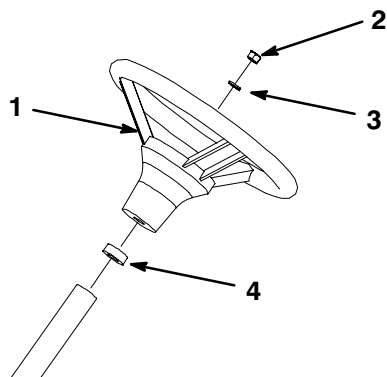

Figure 4
- Secure steering wheel to shaft with hex nut (Fig. 4).